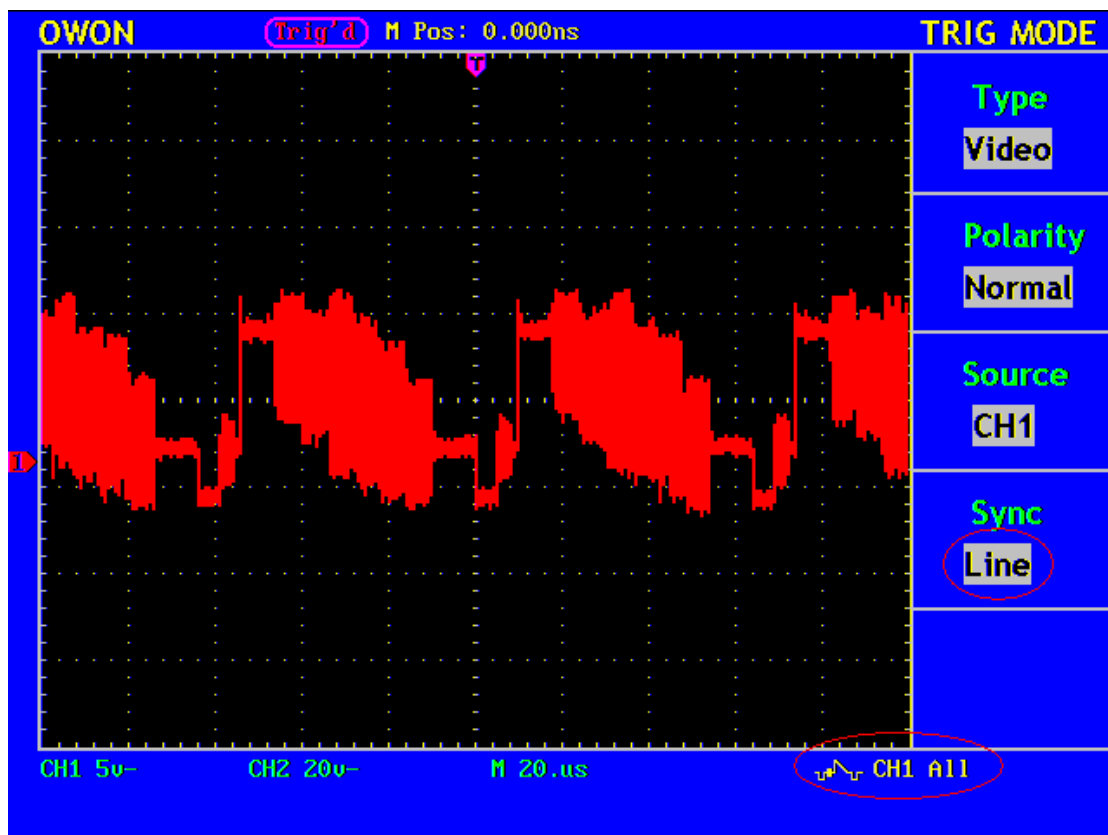

Fig. 32 Wave Form Triggered in the Video Line
6. Press the **F4** menu selection button again and choose **Line** for Slope. The screen display is shown as Fig. 32.